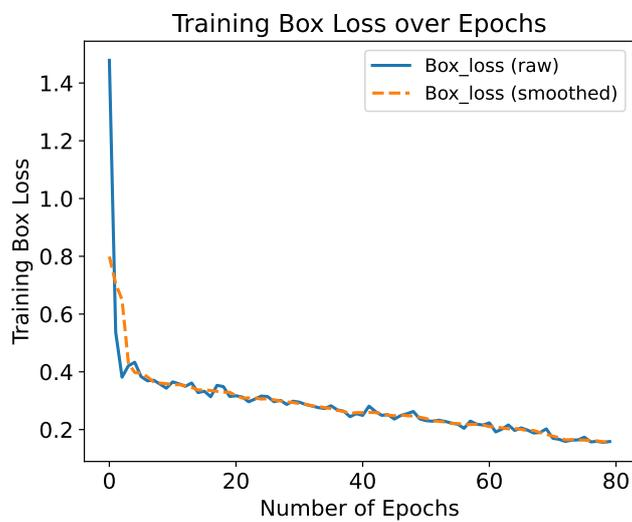

Figure S7: Training Box Loss vs. Number of Epochs for YOLO detect model
- Fig. S7 S8 S9 S10 S11 S12 show detection model box loss, classification loss, distribution focal loss for both training and validation respectively.